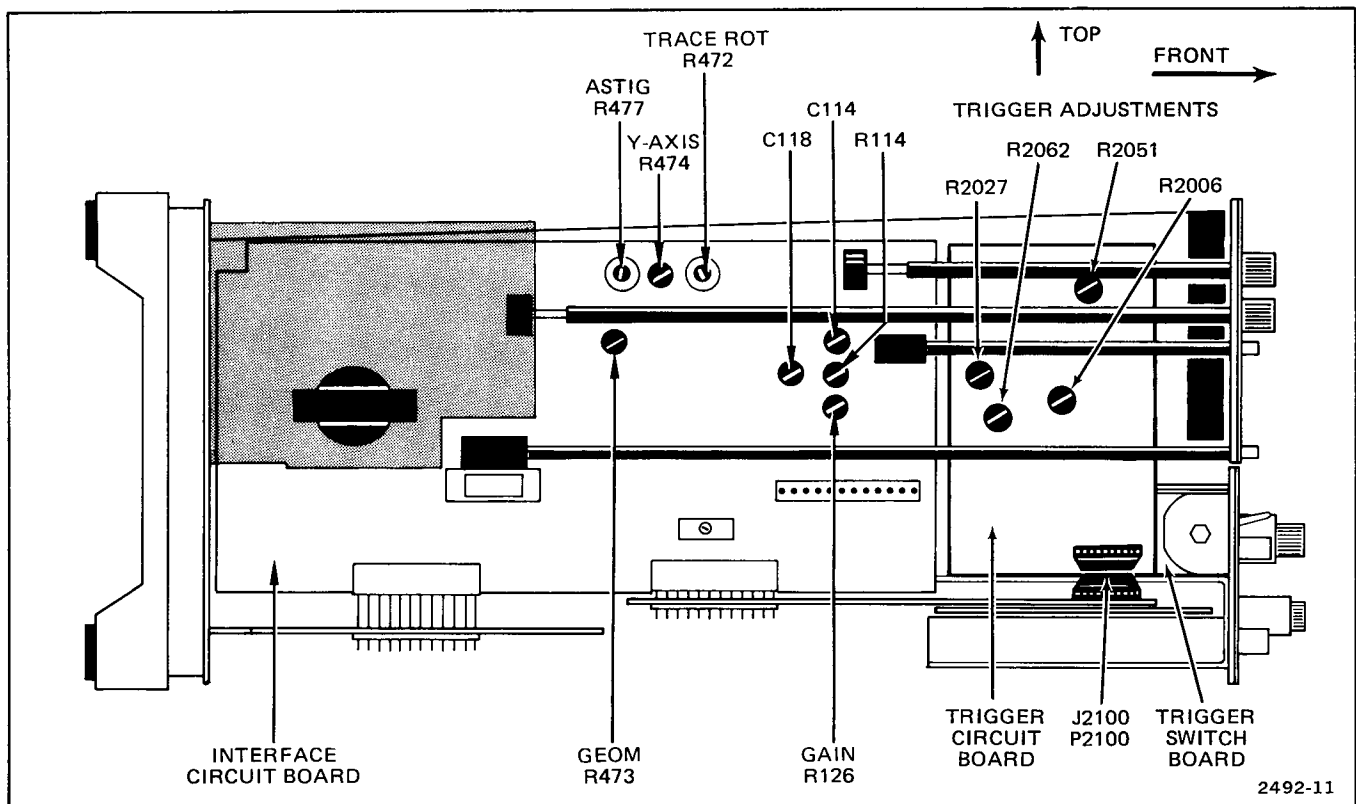

Fig. 4-6. Trigger board adjustment locations (on left side of crt).
i. ADJUST—Composite DC Level, R2006 (see Fig. 4-6), to bring sweep to center line.
- d. ADJUST—X Centering, R2051 (see Fig. 4-6), so sweep start is at center line.
- c. ADJUST—X Gain R2062 (see Fig. 4-6), for 10 divisions of horizontal deflection.